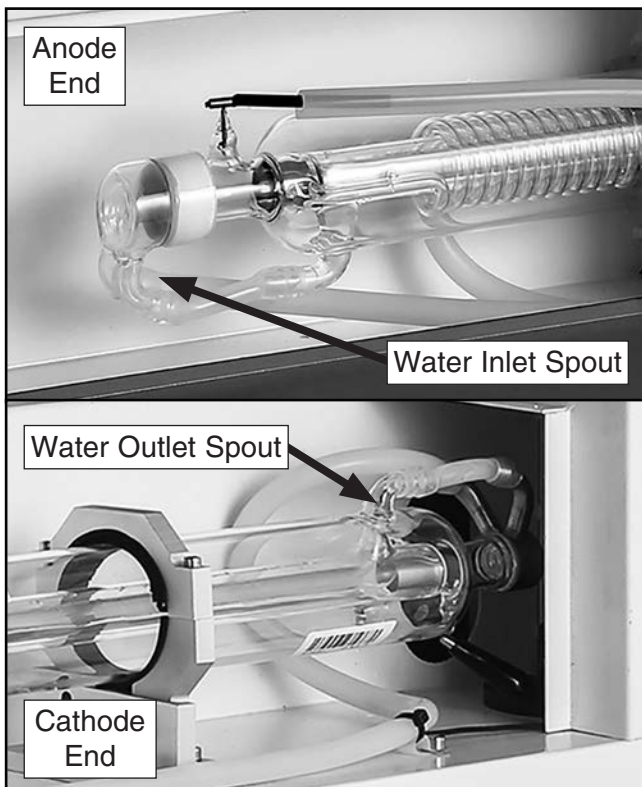

Figure 88. Laser tube water inlet/outlet spouts.
9. Rotate and center laser tube in saddles so inlet spout is pointed down, and outlet spout is pointed up, as shown in **Figure 88**.